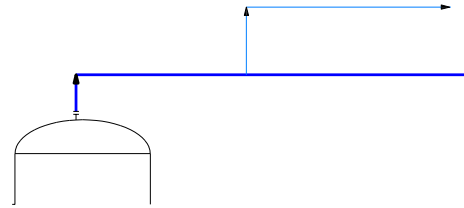

Figure 2-53 Drawing the secondary line connecting the previous line
8. Invoke the **Secondary Line Segment** tool and create a line, as shown in Figure 2-53.